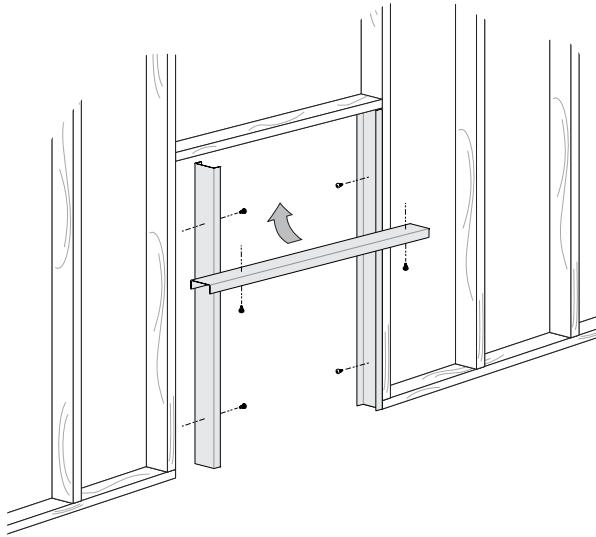

Figure 8
1. Secure the metal studs to the frame using six #10 pan-head screws as shown in Figure 8. The channel of the studs should face as shown in Figure 8.